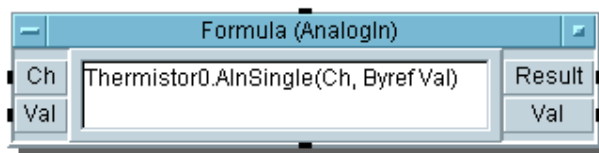

Figure 3-24. PC Plug-in Card with ODAS Driver as Formula Object
2. Select one of the sub-entries such as `Thermistor0`, and under **Create I/O Object**, select `PCPI Driver`. Click to place the object. It appears as a `Formula` object in VEE as shown in Figure 3-24.